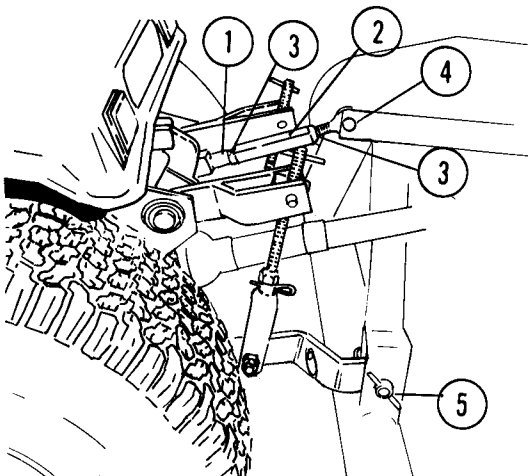

Fig. 6 — Attaching Tiller
8. Attach tractor left and right lift arms to Tiller and secure with hairpins as shown in Figure 6.
9. Adjust length of tractor top link and attach to top hitch point on Tiller "A" frame, Figure 6.